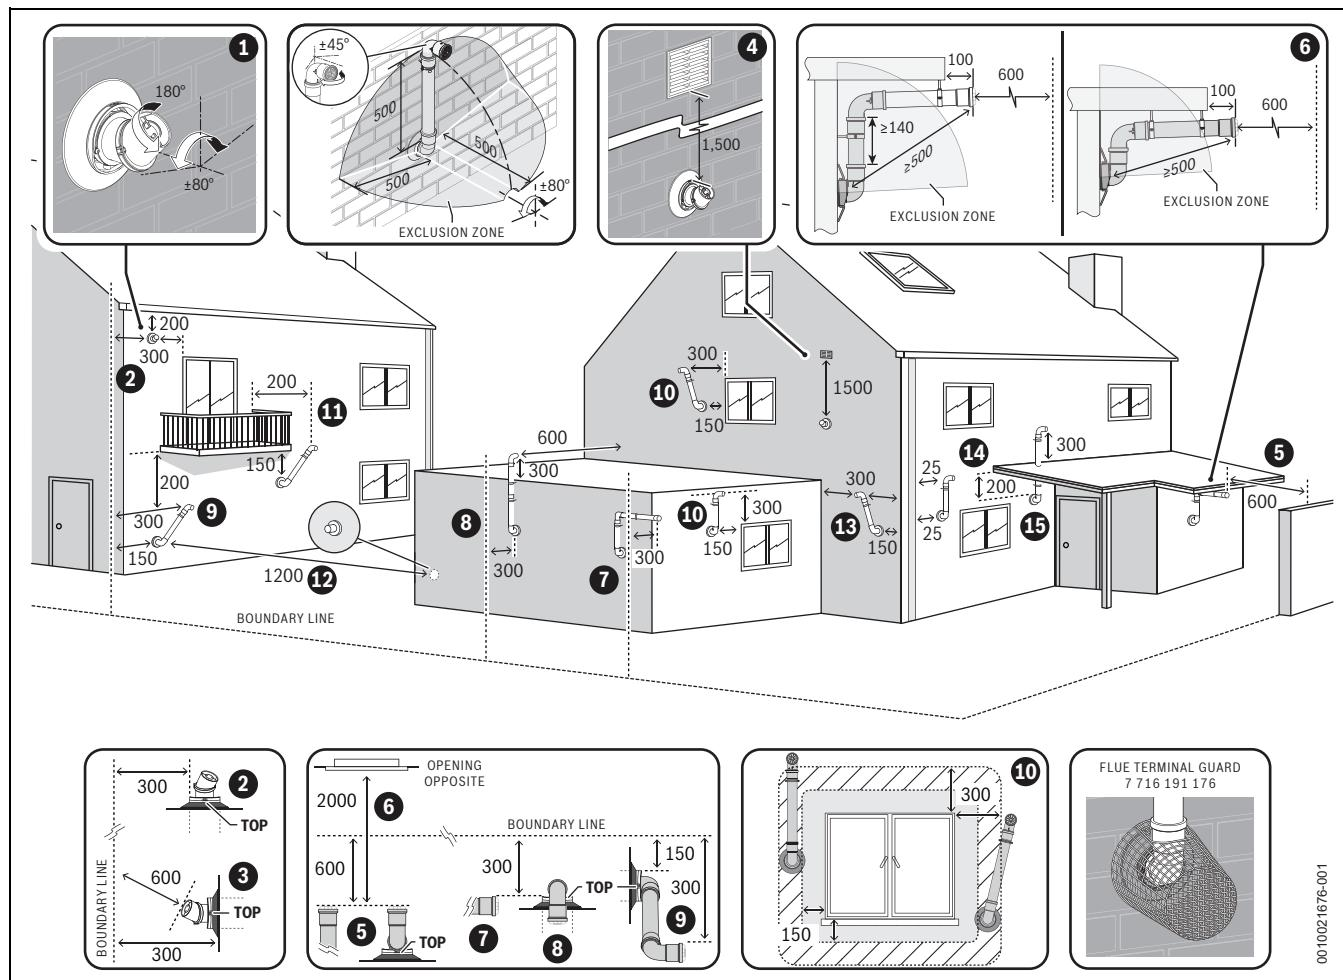

Fig. 34 Plume re-direct and plume management terminal positions
- Refer to "Horizontal flue terminal positions" for all concentric flue terminal positions unless the flue position is specified in figure 34 "Plume re-direct and plume management terminal positions".
**Key to figure 34**